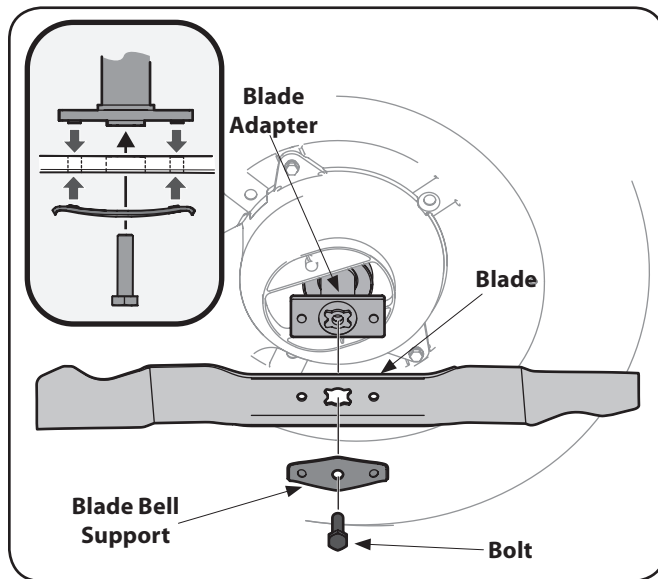

Figure 7-1
2. Remove the bolt and the blade bell support which hold the blade and the blade adapter to the engine crankshaft. See Figure 7-1.
5. Place the blade on the adapter such that the side of the blade marked "Bottom" (or with part number) faces the ground when the mower is in the operating position. Make sure that the blade is aligned and seated on the blade adapter flanges. See Figure 7-1 inset.